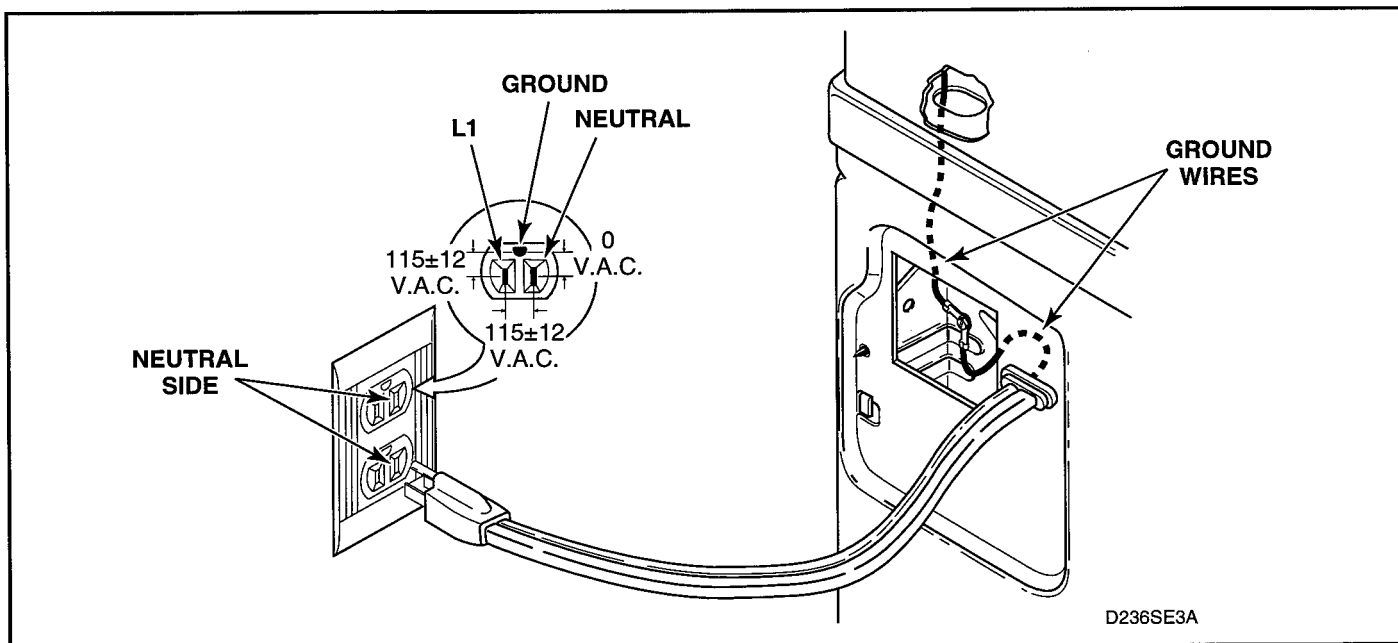

Figure 4-2
2. GROUND WIRES FROM POWER CORD TO REAR BULKHEAD AND FROM REAR BULKHEAD TO CONTROL HOUSING. CHECK WALL RECEPTACLE POLARITY (Gas Models Only – Figure 4-2).